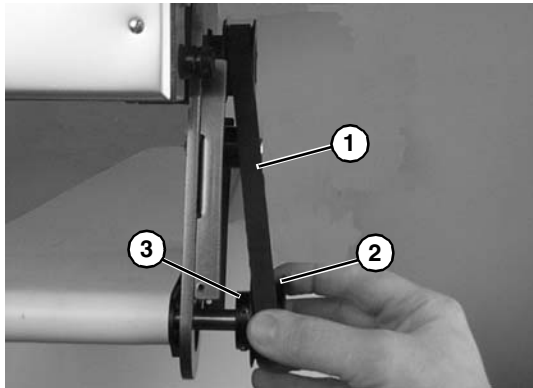

Figure 20
3. Remove timing belt (**Figure 20, item 1**).
If timing belt does not slide over driven pulley flange (Figure 20, item 2), loosen driven pulley set screws (Figure 20, item 3) and remove pulley with belt. For re-installation, see steps 6 through 9 on page 9.